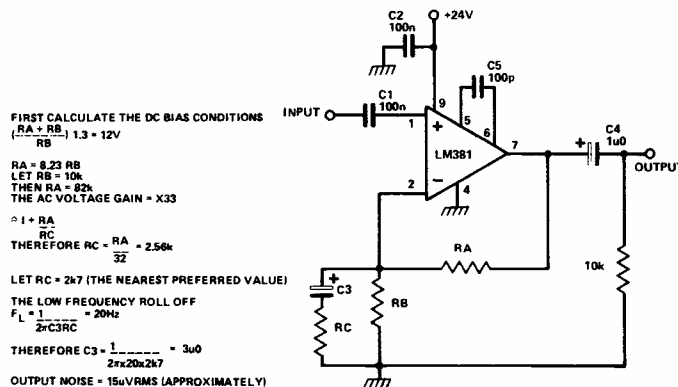

Fig.18. A 30 dB amplifier.
A. The design calculations are shown in Fig.18.